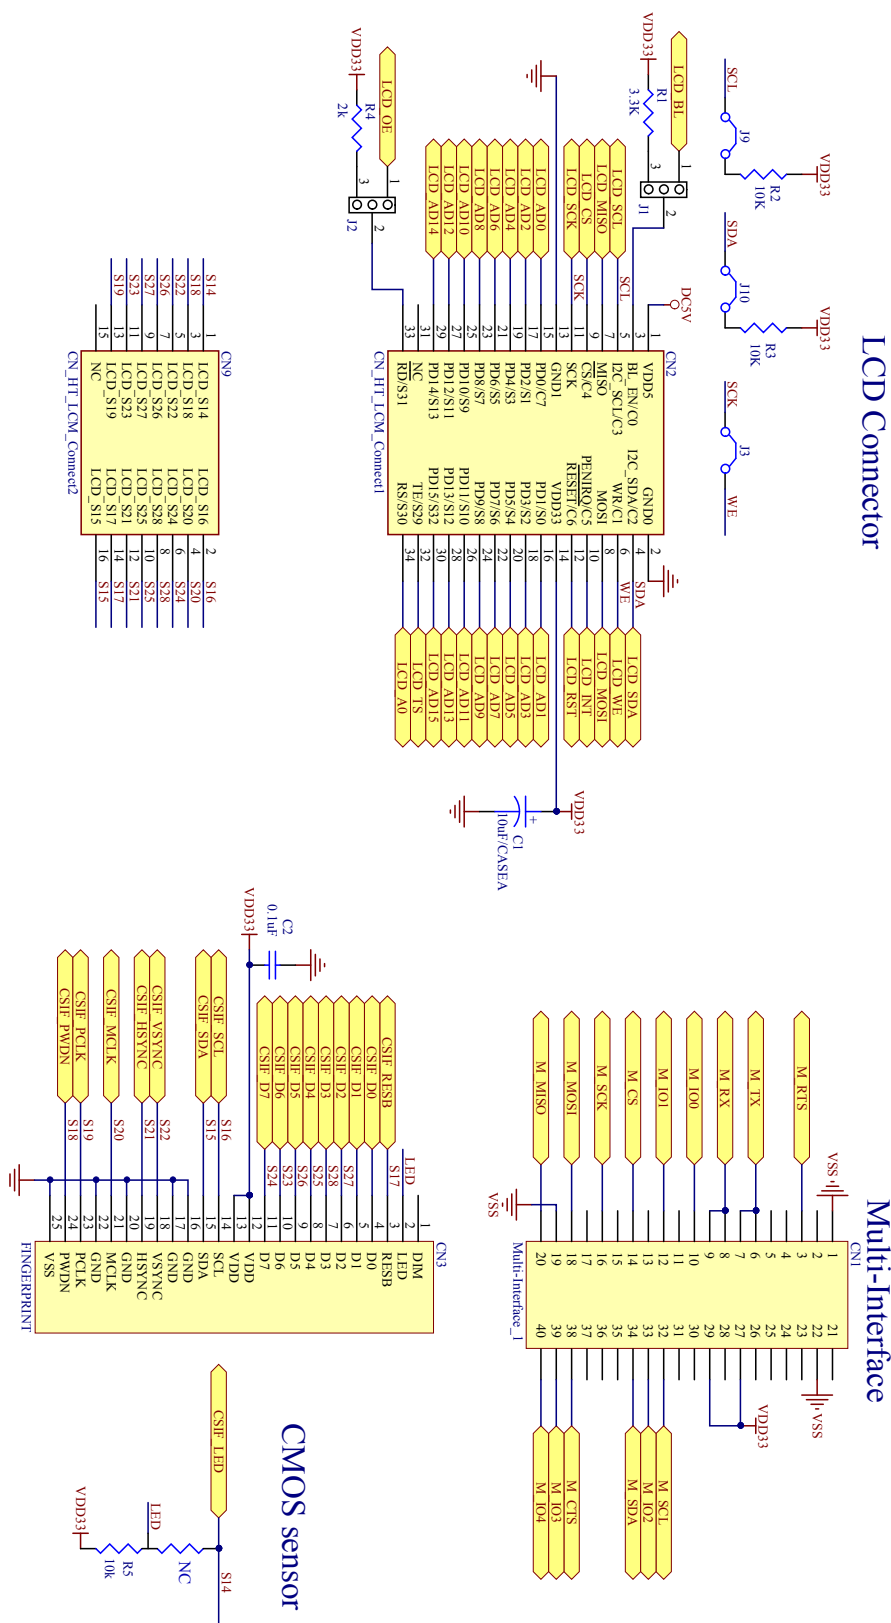

Figure 15. LCD Connector, Multi-Interface and CMOS Sensor
- Figure 15 includes the LCD connector, Multi-interface and CMOS sensor.